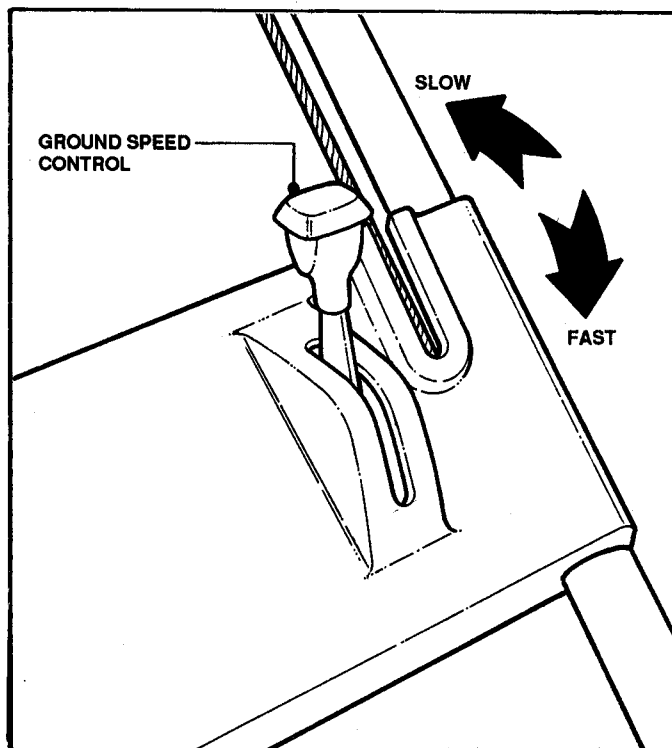

FIGURE 4
The mower has three (3) forward speeds. The **GROUND SPEED CONTROL** lever is moved to the front or rear to select the desired speed. See Figure 4.